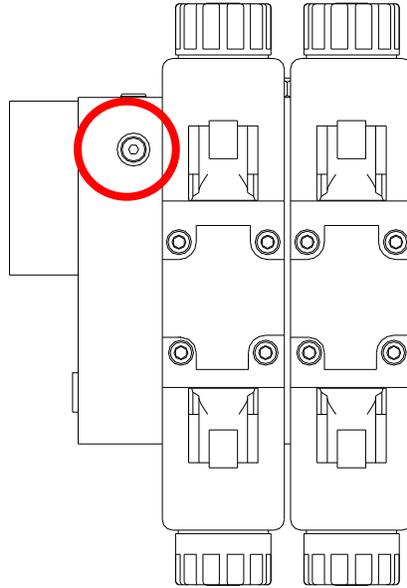

Figure 25: Load Sense Bleed Orifice Location on Top of Block
6. Remove the plug from the Sense Line Bleed port. Location is shown in **Figure 25**. Gently tap the plug with a hammer to loosen it before attempting to remove it.
7. Remove the Sense Line Bleed Orifice and discard. **Figure 25**. Install the setscrew (**F11**) into the Sense Line Bleed Orifice location. Ensure the setscrew is threaded entirely into the hole and tightened to 35-40 in-lbs to ensure a tight seal. Reinstall the plug and tighten to 35-40 in-lbs.